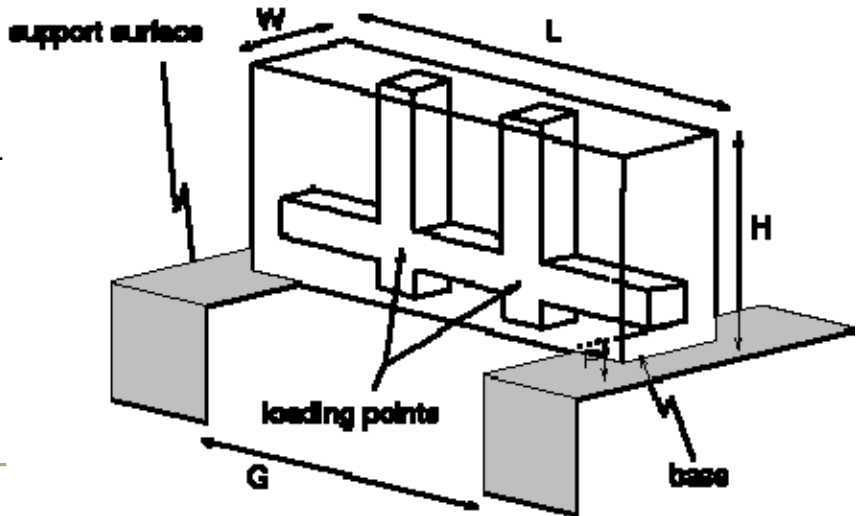

Figure 1. Bridge schematic (not to scale).
- The bridge (see Figure 1) must span a gap (**G**) of 300. mm, be no longer (**L**) than 400. mm, have a maximum width (**W**) of 80. mm, be no taller (**H**) than 250. mm above the support surfaces.
- The bridge must be constructed to allow for passage of a 1.5 inch by 1.5 inch by 18 inch long rectangular block vertically through both load points (the block will be centered on the loading point as shown in Figure 1) and horizontally across the load plane (one face of the block will be in contact with the load plane).